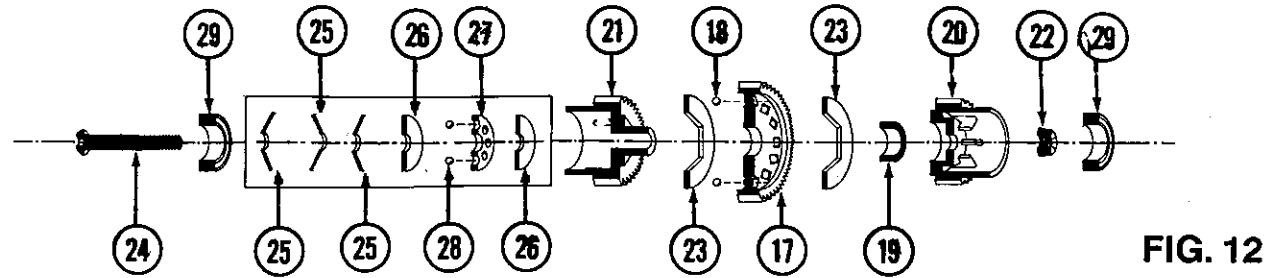

FIG. 12
5. Insert 1/4" x 3/8" bearing (19) into female half of differential (20). Fig. 12.
\* NOTE: This is the only bearing that will fit over male half of differential (21). Check to see that it does. Fig 12.
6. Insert 5-40 locknut (22) into opposite side of female half of differential (20). Fig 12.
7. Place one hex thrust washer (23) onto male half of differential (21) and other hex thrust washer (23) onto female half of differential (20). Fig 12.
8. Assemble differential by placing center differential gear (17) onto male half of differential (21) followed by female half of differential (20). Set aside, female half up, until step 10. Fig 12.
C. Slide bronze bearing cage (27) down screw (24) shaft.
D. Position 8 thrust ball bearings (28) into the holes in the cage (27).
E. Slide a second thrust washer (26) down screw (24) shaft.
10. Insert screw into thrust assembly into male half of differential (21), and thread into 5-40 locknut (22) in female half of differential (20). Fig.12.
11. Press a 5/16" x 1/2" bearing (29) into each end of differential assembly. Fig. 12.